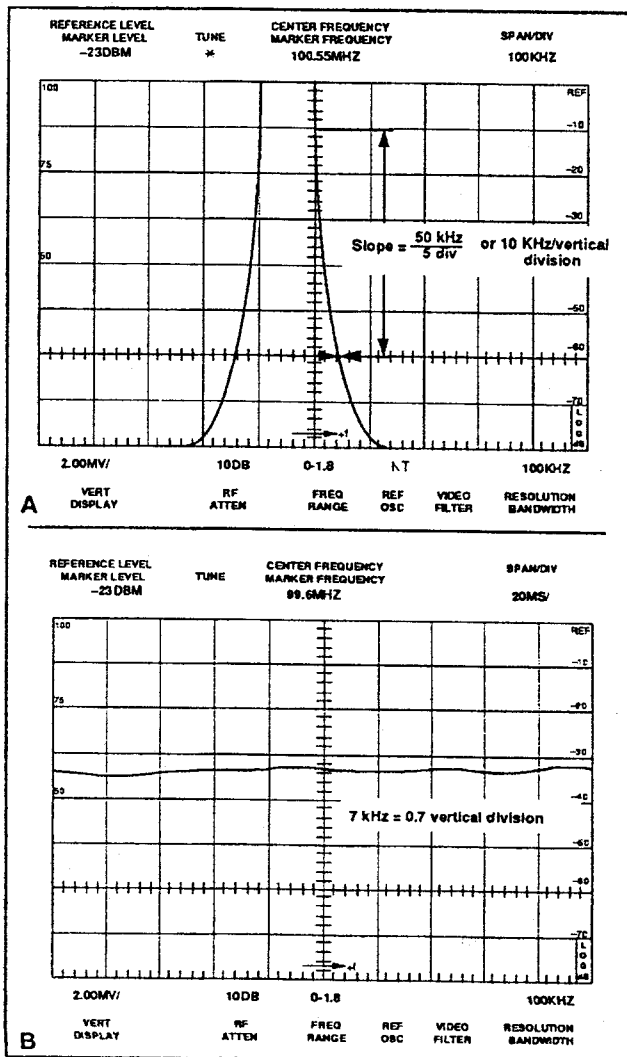

Figure 4-5. Typical display for measuring residual FM
f. If SAVE A was used in part e, de-activate SAVE A and VIEW B. Activate ZERO SPAN, set TIME/DIV to 20 ms, and set CENTER FREQUENCY control to position the display near center screen as shown in Figure 4-5B. Use SAVE A to freeze the display for ease in measuring FM. For the example in Figure 4-5, the vertical amplitude (p-p) over each 20 ms sweep interval (1 div.) can vary by no more than 7 kHz (0.7 div)